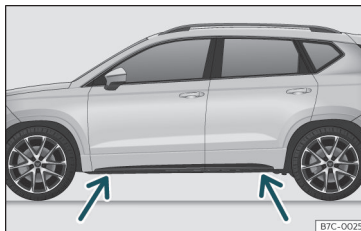

Fig. 62 Crossbar: brands.
- Find the support point on the strut (sunken area) closest to the wheel to be changed >>> Fig. 62.